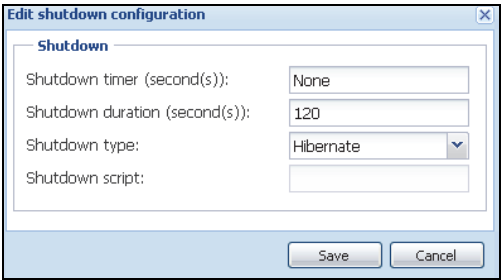

Figure 59. Edit Shutdown Configuration Dialog Box
- The IPP default configuration is available from **Settings > Shutdown > Edit Shutdown Configuration** (see Figure 59).